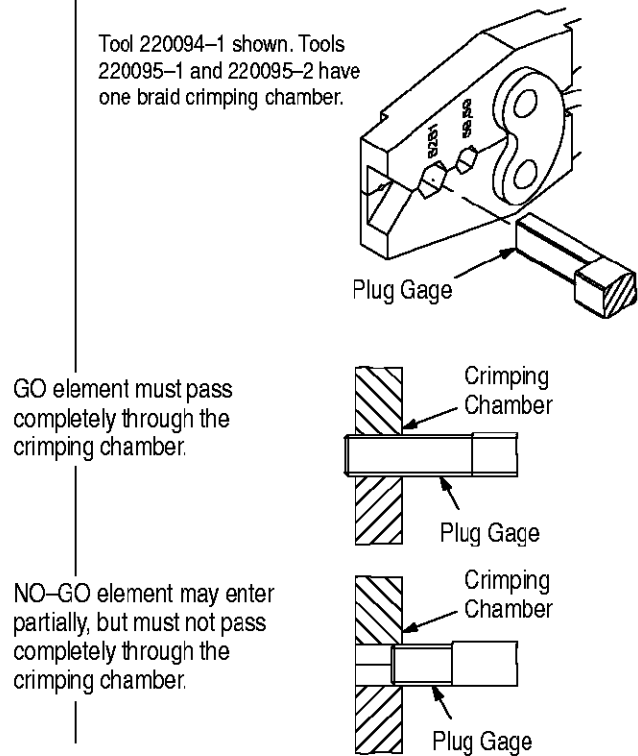

Figure 10
gage in straight alignment with the tool and carefully try to insert, without forcing, the GO element. The GO element must pass completely through the center contact crimping chamber, as shown in Figure 10, Detail A.
3. With jaws bottomed, check the braid crimp crimping chamber using the proper plug gage. Hold gage in straight alignment with the tool and carefully try to insert, without forcing, the GO element. The GO element must pass completely through the crimping chamber, as shown in Figure 10, Detail B.